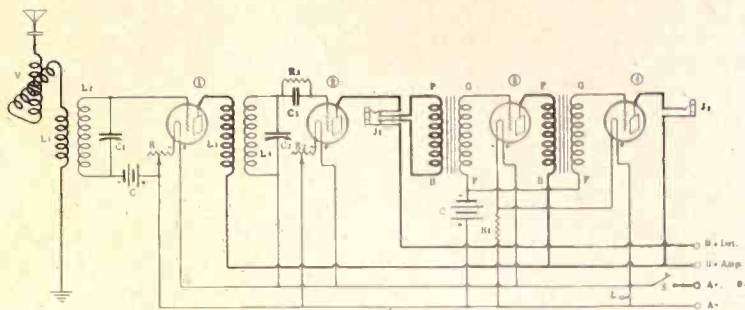

FIG. 1, the wiring diagram of the tuned aerial set. The variometer controls excess oscillations besides rendering the receiver more sensitive.
**EXCELLENT** control of a receiver may be enjoyed by the use of a variometer in the aerial circuit. It should be a wide-range variometer, not one that has insufficient inductance to enable one to cover the wavelength band, as is the case with some cheap products. By the system shown in Fig. 1 you have a tuned aerial circuit, and this makes the receiver extremely sensitive to the respective frequencies desired to be tuned in, without, however, contributing to the selectivity of the set. An added attraction is that the self-oscillation tendency is kept within easy bounds by the variometer adjustment. This tendency usually is noticeable from 300 meters down, even on sets that employ only a single stage of tuned radio frequency amplification ahead of non-regenerative detector.